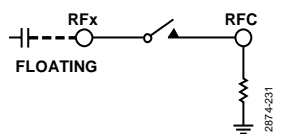

Figure 63. Series Capacitor Directly Connected to MEMS Switch
- Connecting a series capacitor directly to the switch (see Figure 63).